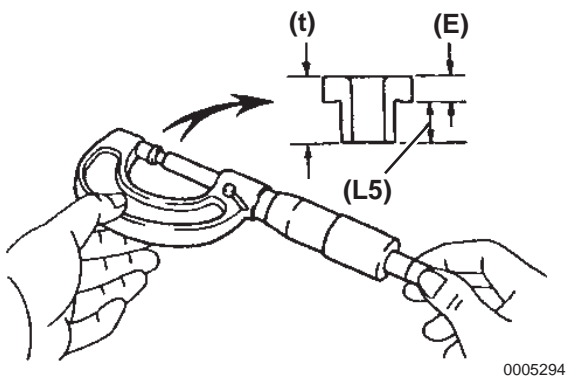

Figure 6-34
4. Measure dimension (E) of No. 2 pressure spring seat, using a micrometer. If the pre-lift length is out of the specified range, select a No. 2 pressure spring seat from the chart (**Figure 6-34**). **NOTICE:** Increasing the seat thickness reduces the pre-lift.
- Dimension (L5) = (t) - (E)